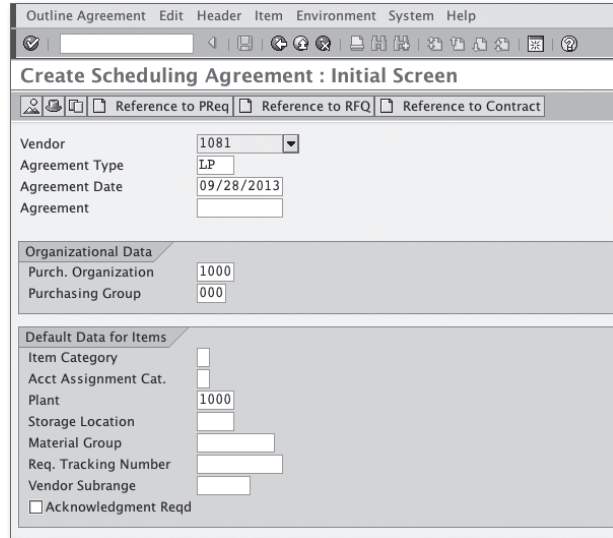

Figure 4.18 Initial Screen to Create a Scheduling Agreement
1. In the first screen of Transaction ME31L, select a VENDOR number, the AGREEMENT TYPE LP, PURCH. ORGANIZATION, and PURCHASING GROUP at a minimum (see Figure 4.18). Press  to proceed to the header screen.